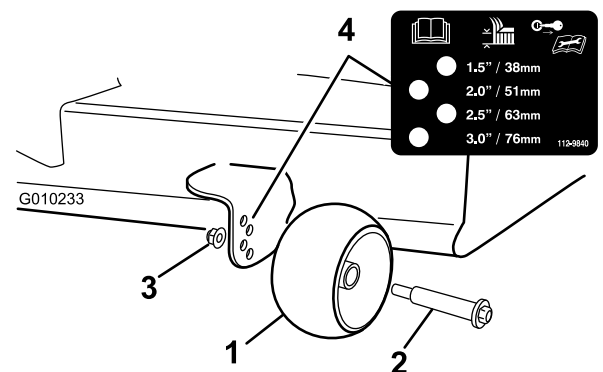

Figure 19
3. Adjust the anti-scalp rollers as shown in Figure 19 to match the closest height-of-cut position.